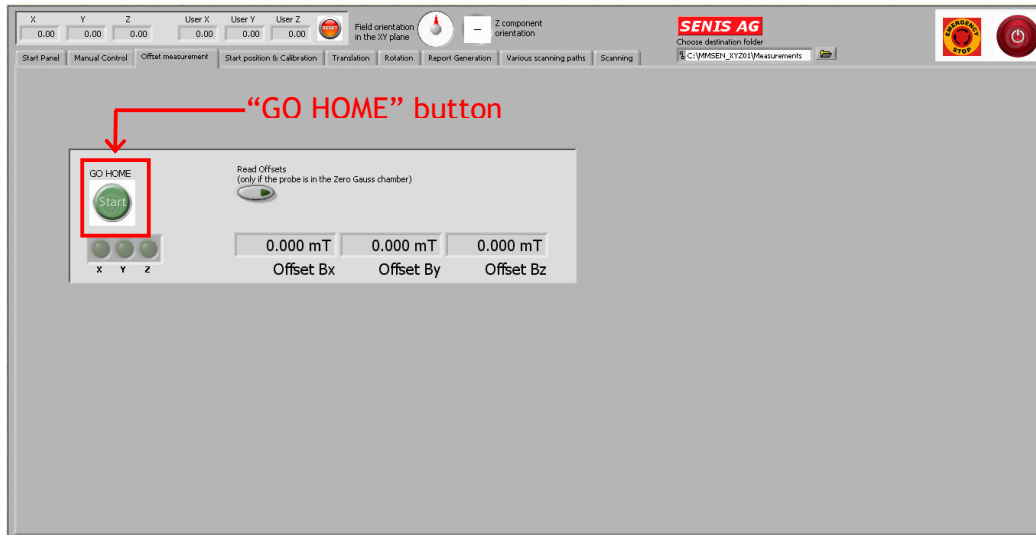

Figure 22: "GO HOME" button
12) Click on the "GO HOME" button (Figure 22). The system will move the probe and position it into the Zero Gauss chamber. After the probe is positioned, the readings in the fields "Offset Bx", "Offset By" and "Offset Bz" will change (the probe will read the new offsets).